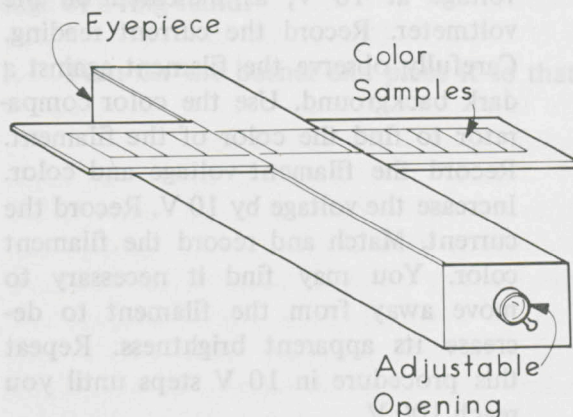

Figure 2.
Figure 2 shows the parts of a vacuum tube. In operation, electric current is passed through a thin wire called the filament which is inside the glass bulb or envelope. The filament heats up until it becomes incandescent (glows white-hot). Except for the sun or a star, light bulb filaments are among the hottest things you will ever see. Figure 2 shows the parts of a vacuum tube. In operation, electric current is passed through a thin wire called the filament which is inside the glass bulb or envelope. The filament heats up until it becomes incandescent (glows white-hot). Except for the sun or a star, light bulb filaments are among the hottest things you will ever see.
For this part of the experiment you will need a bunsen burner, pieces of copper wire and iron wire, a stand for holding the wires in the flame, safety glasses to protect your eyes, and a color comparator (see Figure 2).
3. In order to identify the color at the end of the wire, use the color comparator shown in Figure 2.